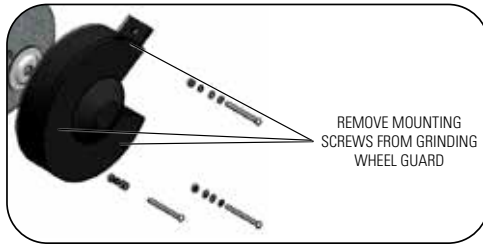

FIGURE 9.2
2. Remove the guard of the grinding wheel to be replaced. Figure 9.2. Replace cracked or damaged grinding wheels immediately;